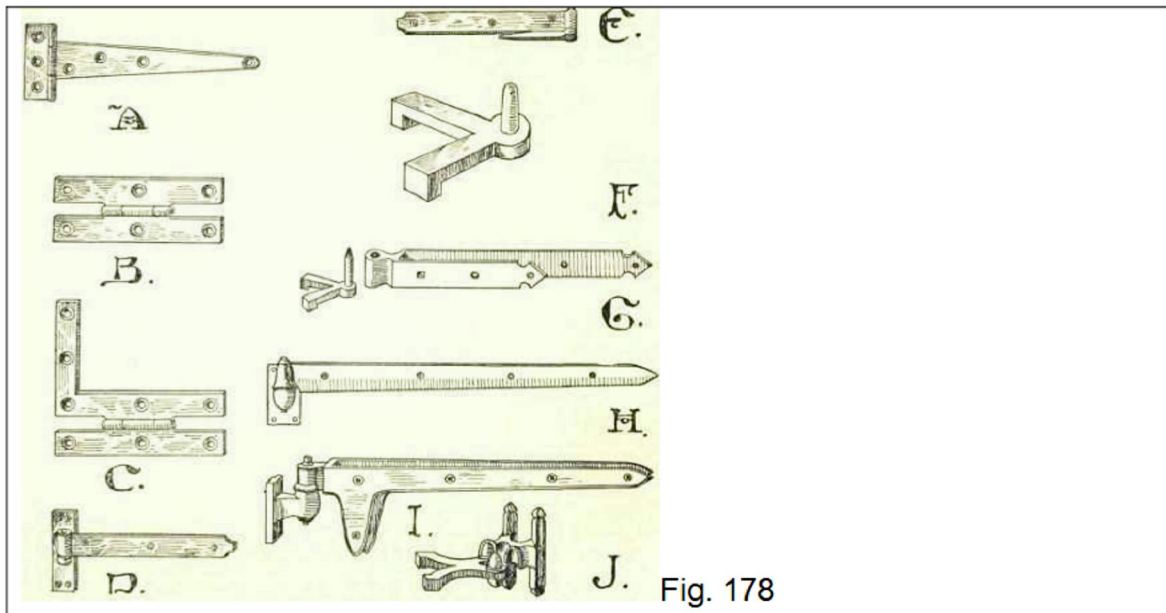

Fig. 178
Among hinges, one of the most generally known is the simple Tor cross gamet, illustrated by Fig. 178 (A), its chief use being for ledged and braced doors, the edge of these doors not allowing sufficient fixing for butt hinges. The heavier qualities are also suitable for framed doors where greater security of fixing is required than can be obtained with a butt. H. and H. L. hinges, as shown in Fig. 35 (B and C), are also very suitable for this purpose, and have this additional advantage, that they can be fixed in any position on the hanging stile, and need not be opposite a top, bottom, or other rail.
For gates, stable doors, etc., the simplest form of hinge is the hook and strap, Fig. 178 (E and F), made with the hook on a plate, on a driving staple (E), or on a forged two-way strap (F) for building in. This form of hinge, on account of its simplicity, readily lends itself to special design by the architect where this is desired. For heavy gates, stable doors, and similar positions, strap hinges are made with a double strap, either of equal or unequal length (G). One of the best hinges for gates and external heavy doors, to coach-houses, stables, etc., is Collinge's spherical gate hinge, shown at H in Fig. 178, made on the cup-and-ball principle, the cup being on the post or pier and the ball-shaped pin on the gate strap. It will be noticed that the pin has a projecting lip, fitted with a leather washer to exclude water and dirt from the cup, which is filled with oil. These hinges are extremely durable and easy in their working. Fig. 178 (I) illustrates Collinge's double-strap hinge for swing gates. The joint of the top hinge is similar to that last described, and the bottom works on two pins, making the gate self-closing. Messrs. James Hill & Co.'s self-closing hinge for swing gates, illustrated at J, comprises a top hinge with cup joint and a bottom self-closing hinge consisting of two inverted half cups on the gate, working on two balls on the post or pier. One pair works when the gate is swung inwards, and the other pair when it is swung outwards, both coming together only when the gate is closed.